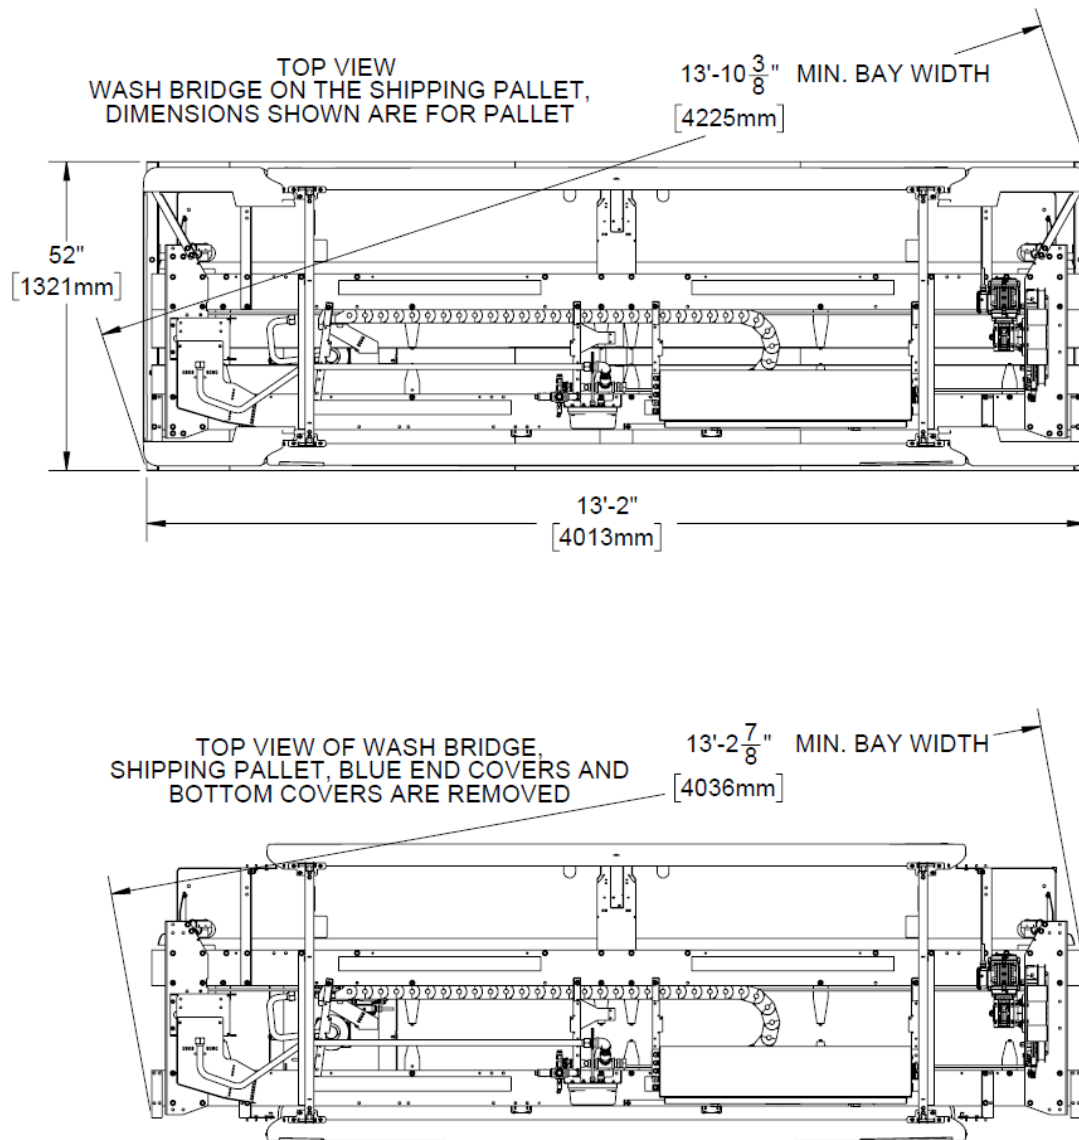

Figure 63 - Bay Width Dimensions Required for Bridge Installation.
- The bridge requires a 14' (4.27 m) wash bay width to rotate it 90° while inside the wash bay, after moving the bridge through the bay doors. See Figure 63 for bay width dimensions in this case.
- When the wash bay width is less than 14' (4.27 m) and the bridge needs to be rotated within the bay, components must be removed prior to rotating. See Figure 63 for bay width dimensions in this case. Also, in this case, the bridge must be removed from the shipping pallet and will therefore not be lifted using the shipping pallet.